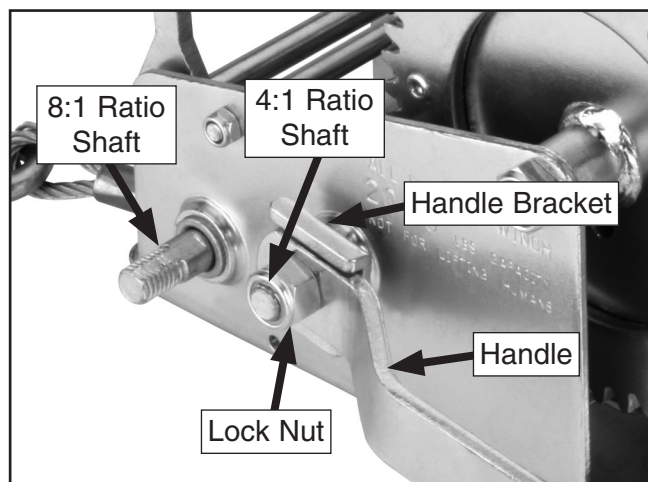

Figure 4. Gear ratios.
1. Use **Figure 4** to determine which handle position is required for the desired ratio.